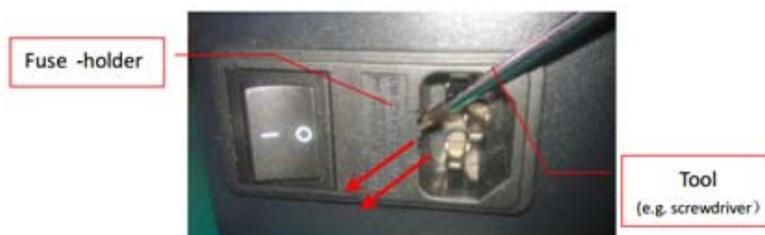

Fig 7.1 Remove the fuse holder from the power filter
- b) Remove the fuse holder from the power filter following the arrows direction in Fig. 7.1.